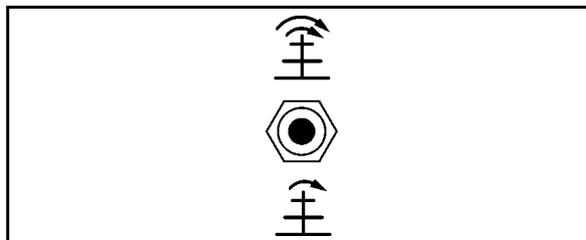

Fig. 33
- the key button (Fig. 33) in case of electrical remote control via the control set.
For changing the gear level, swivel the key button (Fig. 33) into the required position and keep hold of it there for at least 10 seconds.